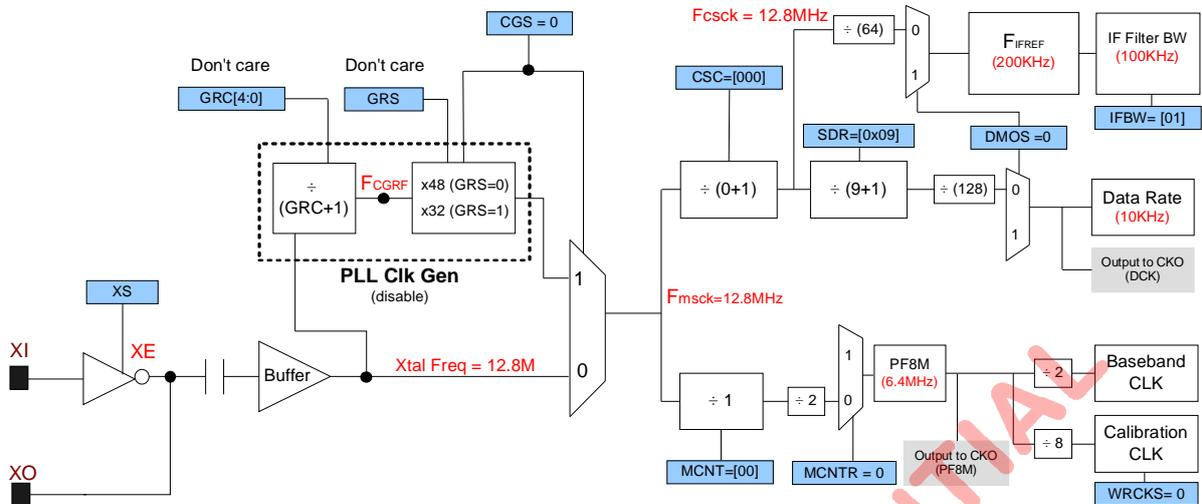

Figure 12.3 Configurations of 10Kbps when IFBW = 100KHz
5. If choosing IFBW = 100KHz, figure 12.3 illustrates the different results of CSC and FCSC.